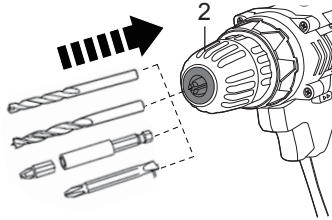

Fig. 2
- > Insert the drill bit all the way to the stop (Fig. 2). If using a 25 mm driver bit, insert it into the socket of a bit holder.